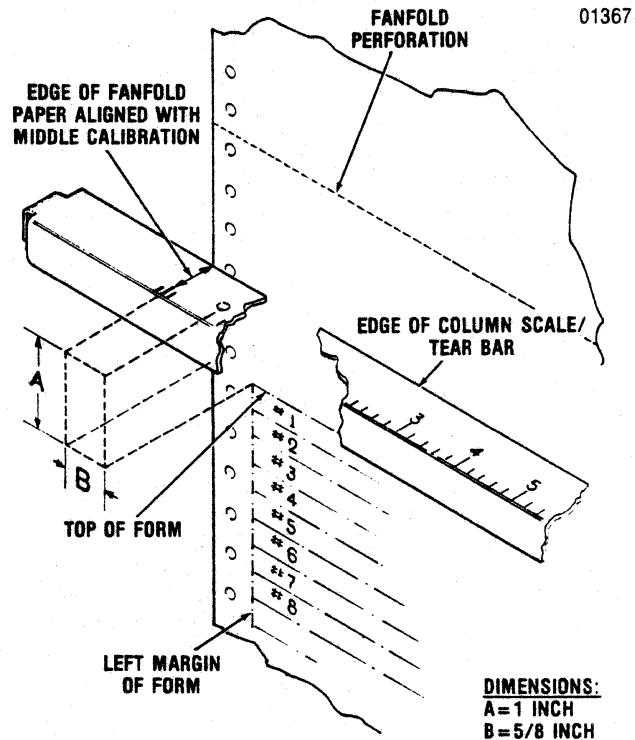

Figure 3-3 Margin Adjustment
14. Note how the left edge of your form aligns with the three fanfold calibration marks which are shown in Figure 3-3.
15. If the edge of the form lines up with the middle calibration, the left margin of the printed form will be approximately 5/8" from the edge of the paper (refer to dimension B, Fig. 3-3). Alignment with either of the outside calibrations offsets the 5/8" margin by 1/10".
Figure 3-3 shows the printer loaded with paper just prior to setting TOF. Note that several consecutively numbered lines are shown outlined on the paper. These lines show where the first few printable lines will be positioned on the paper if the **SET TOF** switch is pressed with paper loaded as shown. Particularly note that the top of form (the top edge of the first printable line) will be set 1" below the edge of the column scale/tear bar (dimension A).
Pressing **SET TOF** with paper positioned as shown in Figure 3-3 sets top of form several inches below the paper perforation. To set TOF just below the perf, move paper until the perf is almost 1" below the tear bar, and then press **SET TOF**.